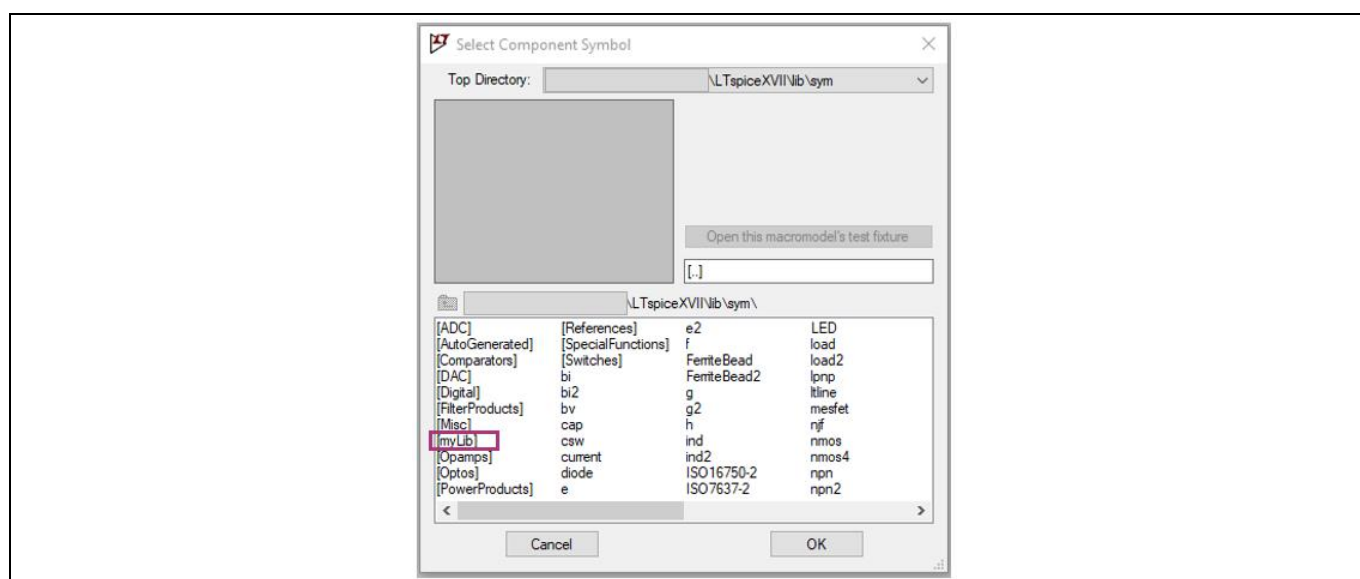

Figure 4 User library
- Double click on **myLib** as in **Figure 4**